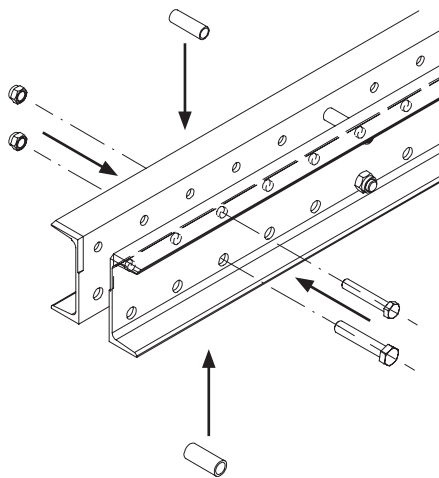

Fig. E1.04a
2. Place the spacers of the RCS rails in the correct position once again. (Fig. E1.04a + E1.04b)